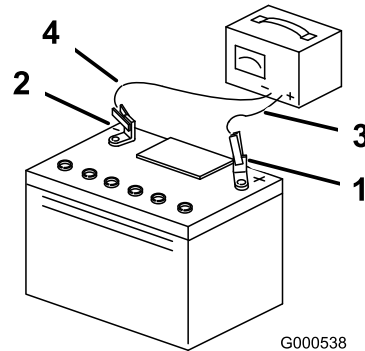

Figure 32
- When the battery is fully charged, unplug the charger from the electrical outlet, then disconnect the charger leads from the battery posts (Figure 32).